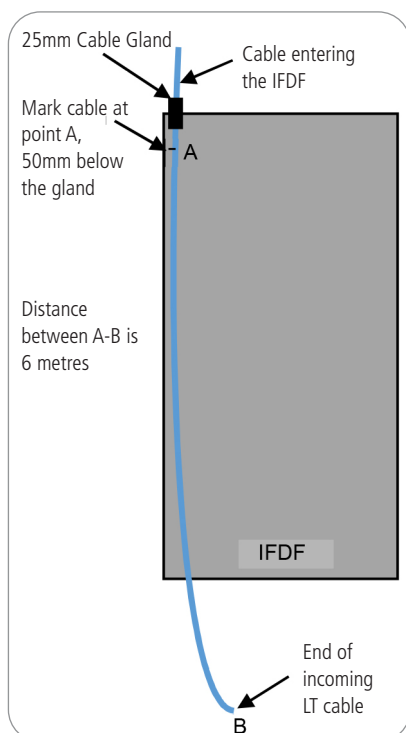

Figure 1.
- Push the cable into the gland, until it is in the required location and mark the cable jacket at point A shown in **Figure 1**. This is 50mm below the gland.
- Remove the cable from the gland and measure the cable to a distance of 6 metres. Cut the excess cable off at this point. Shown as point B in **Figure 1**.